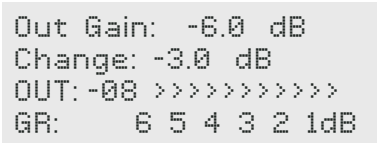

Figure 21. Turning the encoder in Overview screen allows to change output gain.
1. **Turn left or right** to adjust the output level (Figure 21). The output gain and the relative change in dB are shown. The output level is always recalled and is not affected by any reset function. A value of 0.0 dB refers to the nominal output gain of the subwoofer.